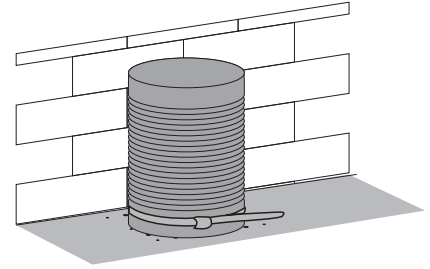

Figure 5
- Fix the expansion pipe on the outlet by cable tie. Note: expansion pipe and cable tie are not included. See figure 5.